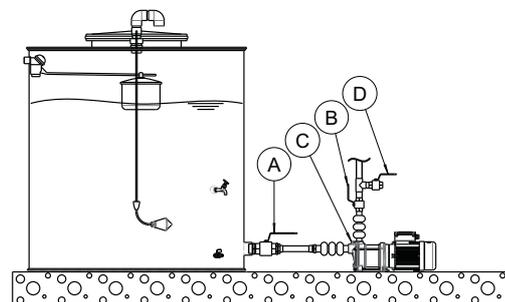

Figure 7: Example: installation of a pump under pressure operation
- Close the discharge shut-off valve (B);
- Close the suction shut-off valve (A);
- Unscrew the fill plug (C);
- Gradually open the suction shut-off valve (A) until the liquid flows from the fill plug (C);
- Close the fill plug (C);
- Open shut-off valve (B);
- Vent the pump on discharge side for example via a venting valve (D) on discharge side (see Figure 7 Example: installation of a pump under pressure operation);